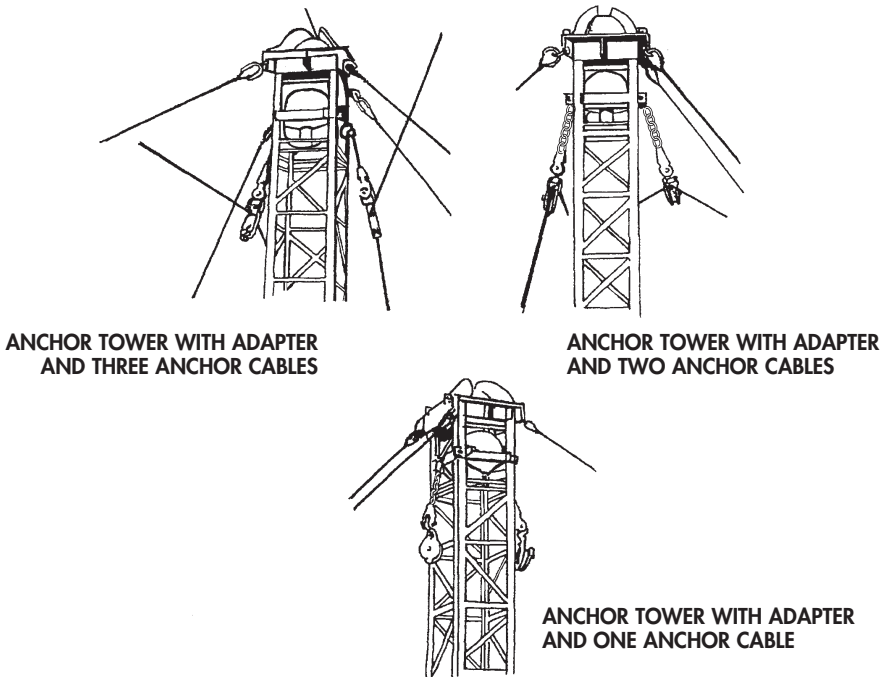

Figure 10. One-, Two-, or Three-Cable System Using One Set of Class 60 Towers.
**Cable design: size and number of overhead cables.** Overhead cable systems may be constructed as one-, two-, or three-cable systems. (Refer to figure 10.) Single-cable systems can be built for bridges as long as 1,200 ft (366 m) in most cases. Installation of cable spans up to 1,500 ft (457.5 m) is possible, but more difficult because of the practical limitations of erection equipment and the cable size and weight. If a cable of sufficient diameter is not available, or if the cable required is too large for the bridle lines and tower fittings, two or three smaller cables may have to be installed using a tower cap adapter. Use table 5 to determine the size and number of cables required to support Ribbon bridges. Table 6 provides information for light tactical bridges. It is important to understand that both table 5 and table 6 are based upon the use of IPS cable. If IPS cable is not used, select an appropriate substitute, based upon a comparison of the breaking strength of the available cables with that of the required IPS cable. Table 7 provides the weight and breaking strength of IPS cables as well as several other common cable types.